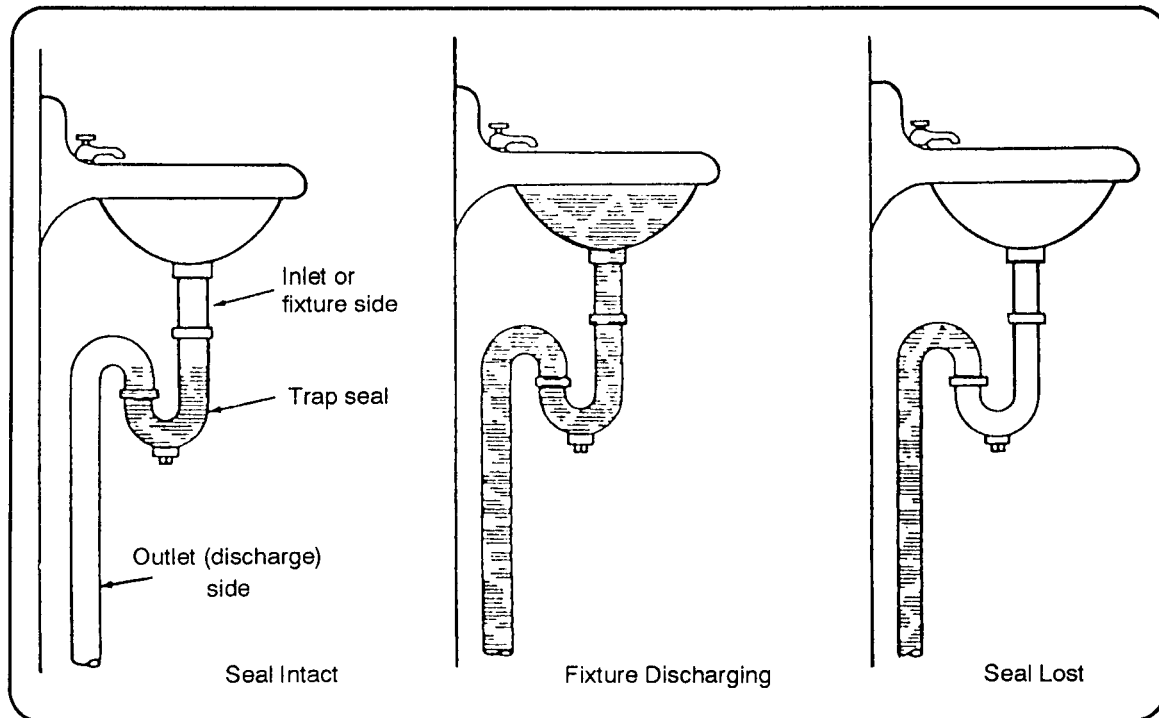

Figure 9-3. Direct siphonage
b. *Direct Siphonage.* Direct siphonage, or self-siphonage, as shown in Figure 9-3, occurs in unvented traps that serve oval bottom fixtures such as lavatories. Such fixtures discharge their contents rapidly and do not have the final small trickle of water needed to reseal the trap. When the plug is withdrawn, the water flows out fast and completely fills the waste pipe. The water displaces the air that normally fills the waste pipe, lowering the atmospheric pressure on the discharge side of the trap. Atmospheric pressure on the fixture side forces the water through the trap, and the seal is lost.